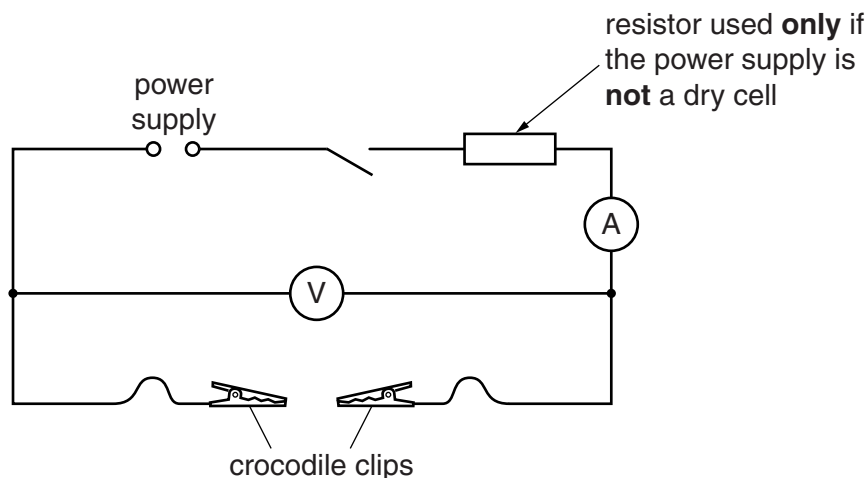

Fig. 3.1
- (iv) Sufficient connecting leads to set up the circuit shown in Fig. 3.1. See note 2.
2. The circuit is to be set up for candidates as shown in Fig. 3.1. Wires **A**, **B** and **C** should be capable of being connected individually between the crocodile clips.
4. If the power supply is a power pack or lead-acid cell, rather than a dry cell, a 1Ω , 3W resistor must be connected in series with the power supply as shown in Fig. 3.1.